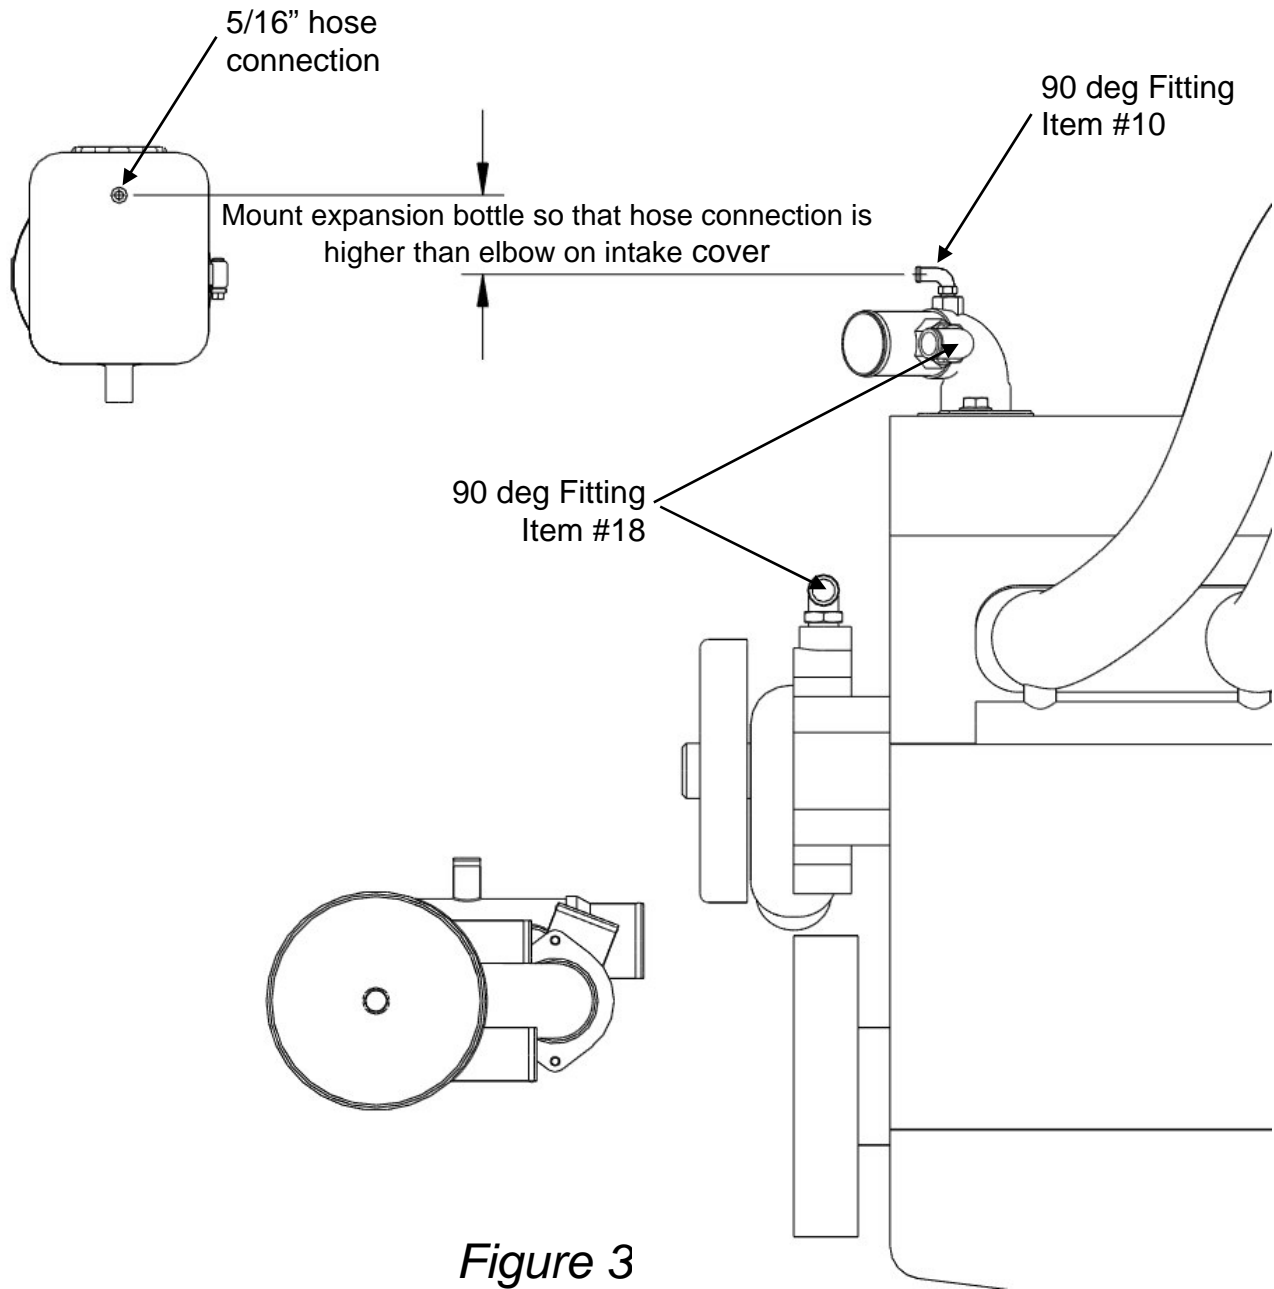

Figure 3
5. Install 90 deg fitting (item #18) into top of the intake cover and on top of the circulating pump. Orient as required. See Figure 3.
8. Mount expansion bottle (item #12) using the expansion bottle bracket (item #14) so that the 5/16" hose connection on the bottle is higher than the elbow fitting on the intake cover (see Figure 3).